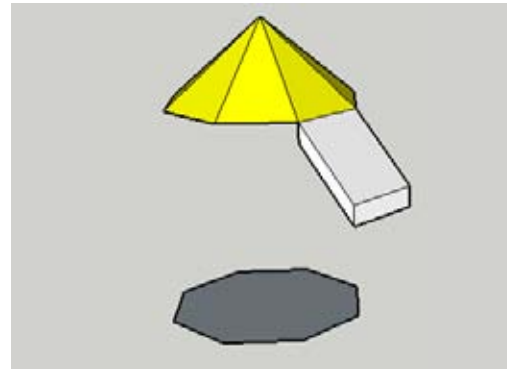

Figure 5-81
8. Erase the vertical walls (Figure 5-81).